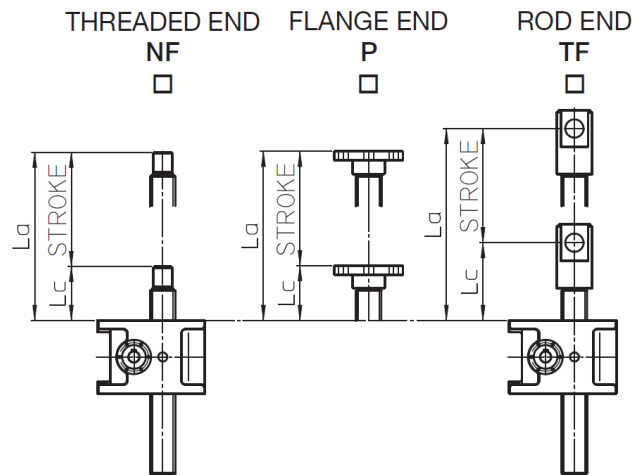

Figure 6.15 – “Lc” and “La” dimensions for Mod.A screw jacks
- Check if the extreme dimensions of the screw jack “Lc” and “La” (see Fig. 6.15 - 6.17) are compatible with extreme positions of the plant component that has to be moved.